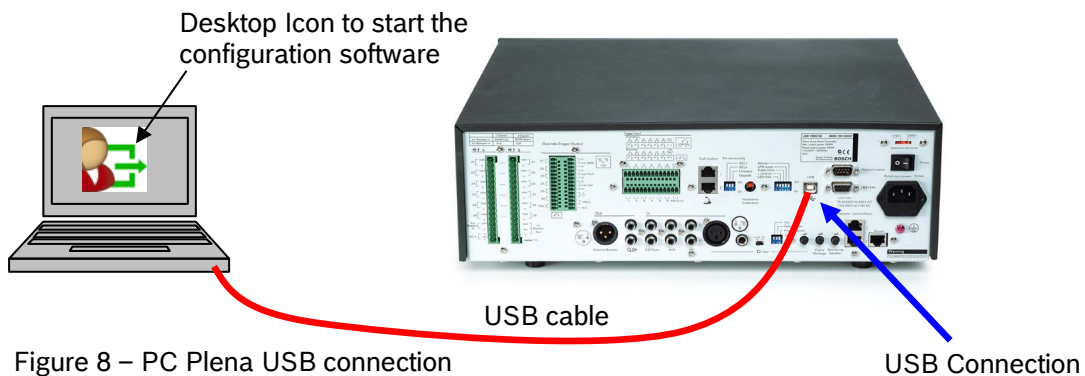

Figure 8 – PC Plena USB connection
- 1) The USB connection (figure 8) can be made after installing the configuration software.
- 3) Start the configuration software from your “start – programs” menu of with the icon which is installed on your desktop. (Figure 8)